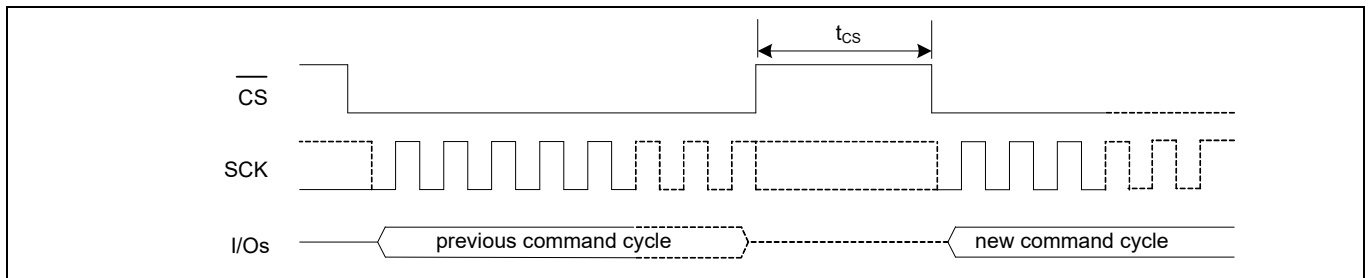

Figure 116 Chip deselect (\overline{CS} HIGH) - t_{CS} timing
24. t_{CS} is the minimum chip deselect ($\overline{\text{CS}}$ HIGH) time before the new command cycle starts in a specific SPI mode (SPI, DPI or QPI). This parameter ensures that previous operation is successfully completed before the host starts a new command cycle. Refer to **Figure 116**.
- 24. t_{CS} is the minimum chip deselect ($\overline{\text{CS}}$ HIGH) time before the new command cycle starts in a specific SPI mode (SPI, DPI or QPI). This parameter ensures that previous operation is successfully completed before the host starts a new command cycle. Refer to Figure 116.
28. t_{CS} is the minimum chip deselect ($\overline{\text{CS}}$ HIGH) time before the new command cycle starts in a specific SPI mode (SPI or QPI). This parameter ensures that previous operation is successfully completed before the host starts a new command cycle. Refer to **Figure 116**.
- 28. t_{CS} is the minimum chip deselect (\overline{CS} HIGH) time before the new command cycle starts in a specific SPI mode (SPI or QPI). This parameter ensures that previous operation is successfully completed before the host starts a new command cycle. Refer to **Figure 116**.